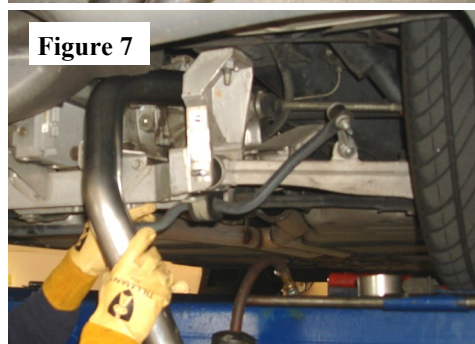

Figure 7
3. Place the RH Over Axle pipe assembly into position and bolt onto the flange using the provided gaskets and original hardware. Hand tighten bolts. (See Figs.7 & 8)